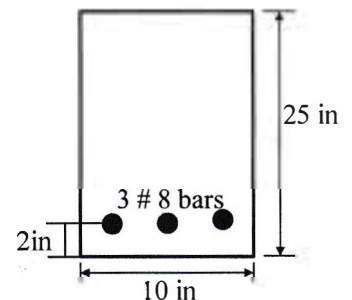

Figure: 1
4. Cross-section of a rectangular beam is shown in **Figure: 1**. (15)